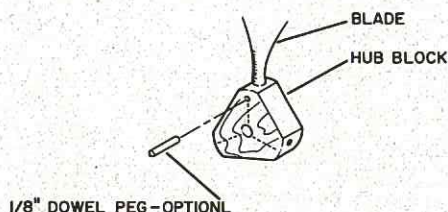

FIGURE 7.
7) Now, simply round off the L.E. to get the correct section and BINGO!, one blade! Sand it all nice and smooth. Repeat the entire process for the other blades. Draw up a suitable hub and glue in the individual blades. Take care with alignment. The blades can also be pegged if desired for additional strength — see Fig. 7.